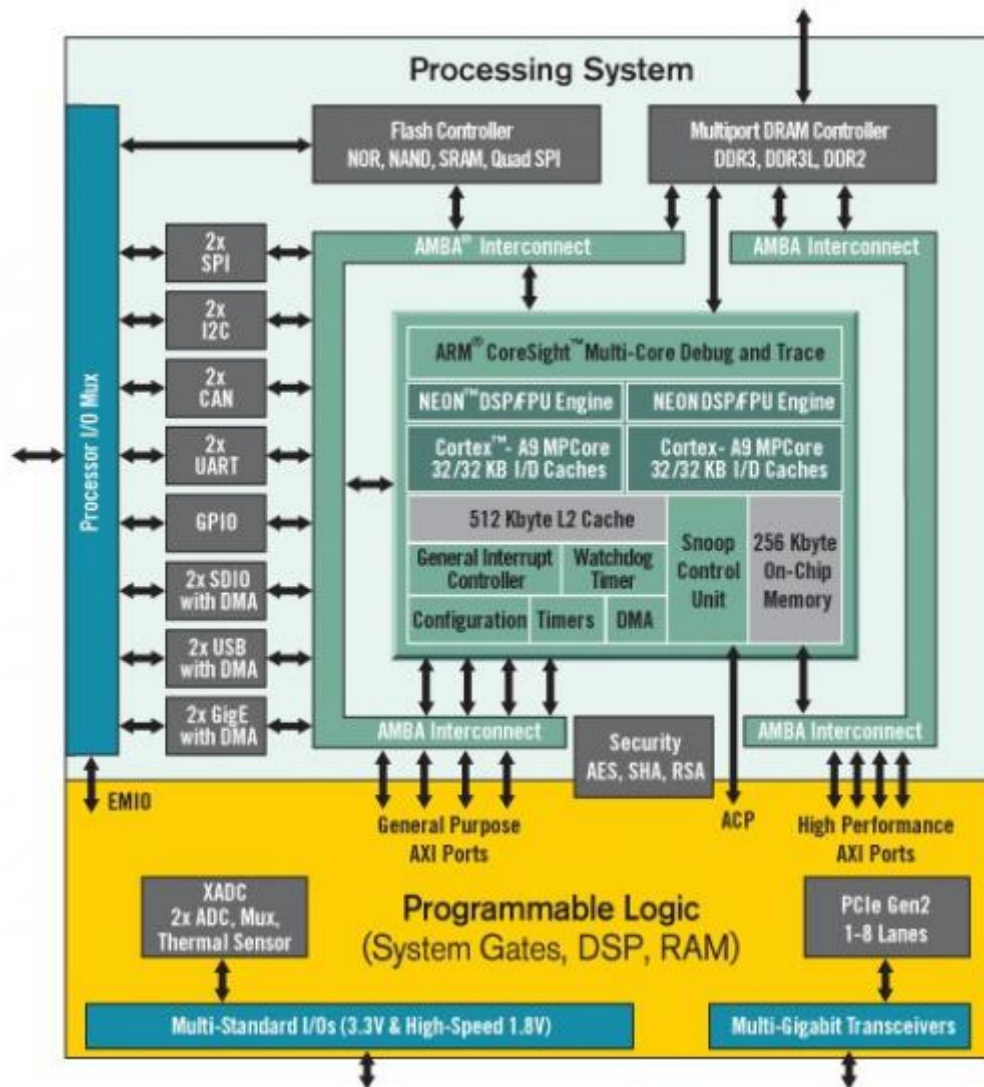

Figure 2.1. Zynq APSoC architecture.
The Zynq APSoC is divided into two distinct subsystems: The Processing System (PS) and the Programmable Logic (PL). Figure 2.1 shows an overview of the Zynq APSoC architecture, with the PS colored light green and the PL in yellow. Note that the PCIe Gen2 controller and Multi-gigabit transceivers are not available on the Zynq-7020 device.